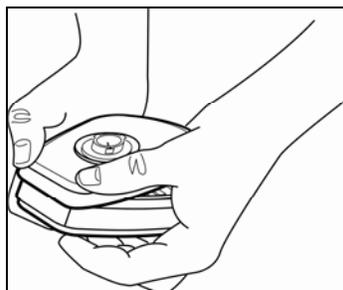

Fig. 6
2. Engage back snap by squeezing back side of cartridge and adapter together using the same hand positions. An audible click should be heard as each snap is engaged. (Fig. 6)